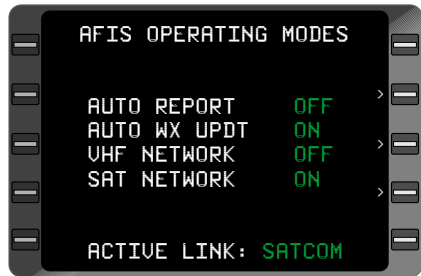

Figure 7-29
**ACTIVE LINK:** Indicates the network in service, i.e. **ARINC**, **SITA**, or **SATCOM**. (Figure 7-29)